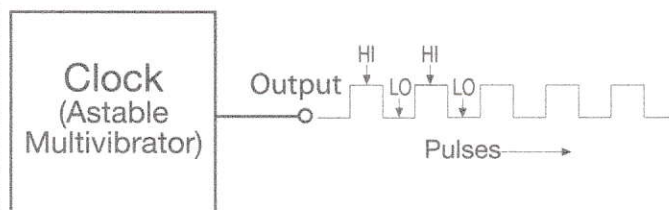

Figure 1 - The Output of a Clock Circuit
In this experiment you will combine two NOR gates to make a clock, also called an astable multivibrator. A clock, as the term is used in digital circuits, is a device that generates a continuous series of pulses, as shown in Figure 1. The output of a clock continually alternates between High (1) and Low (0). The output is astable, which means "not stable". That is why clocks are also called "astable multivibrators".